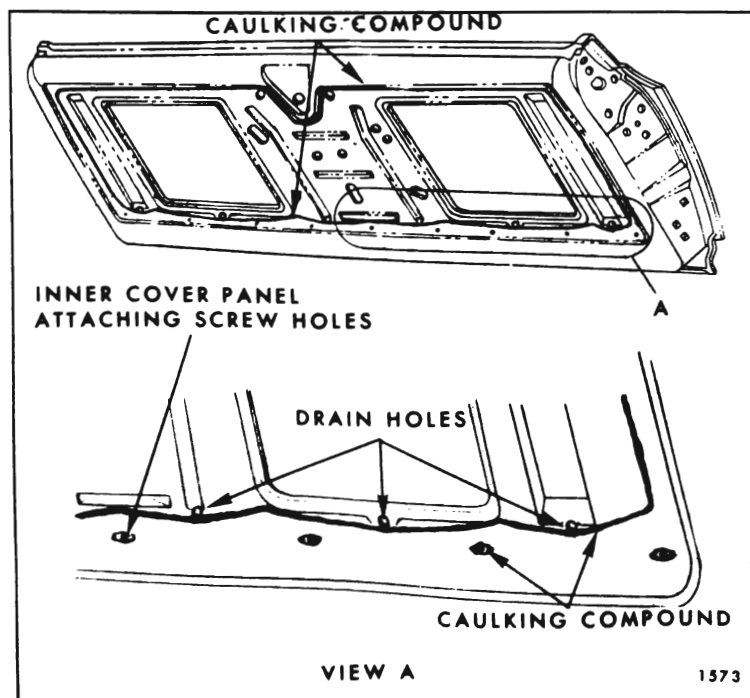

Fig. 9-27—Tail Gate Sealing
- If needed, apply a bead of body caulking compound (approximately 3/16" diameter) to tail gate inner panel. (See Fig. 9-27.) The inner panel cover attaching screw holes should also be sealed with body caulking compound.